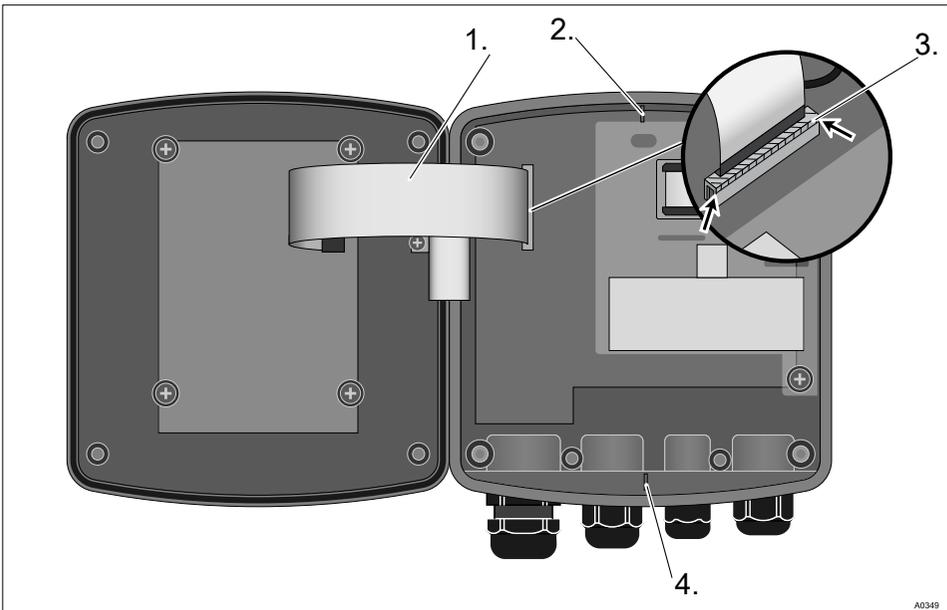

Fig. 8: Loosening the ribbon cable
The base for the ribbon cable is firmly soldered onto the PCB. The base cannot be removed. Open the base lock (3) to loosen the ribbon cable, see Fig. 8